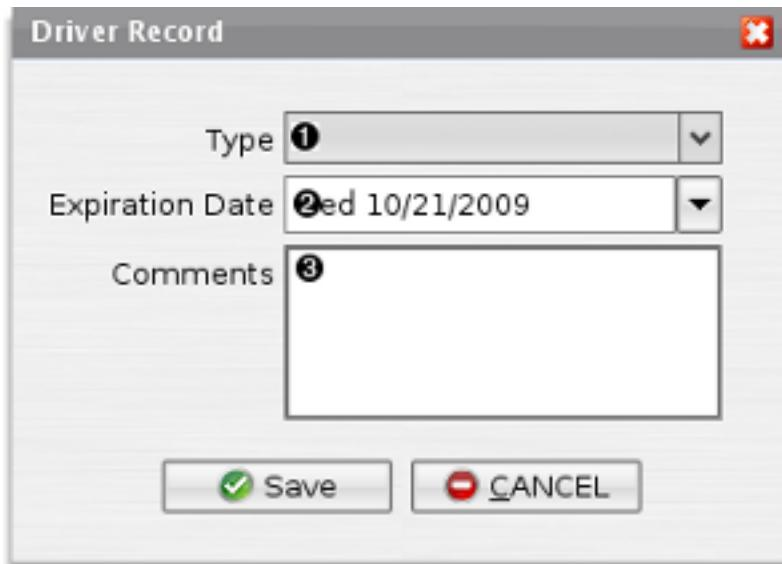

Figure 5.15. Driver Record Dialog
3. Click the New button and wait for the driver record dialog to appear see Figure 5.15, "Driver Record Dialog" for a description of each of the fields.